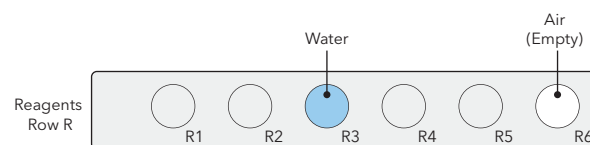

FIGURE 3. cIEF Fractionation Cartridge Post-Run Cleanup reagent vial placement.
7. Verify the reagent vials are placed as shown in FIGURE 3.